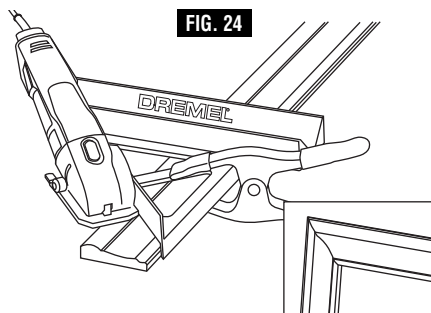

FIG. 24
1. 45° Miter Cuts- use the angled edge of the cutting guide as the fence, (Fig. 24).
Miter Cuts (15°, 22.5° or 30°)- Pivot the cutting guide at the designated corner to the desired angle using the angle indicator marking on the cutting guide, complete the cut using the outside edge of the cutting guide as the fence, (Fig. 24).